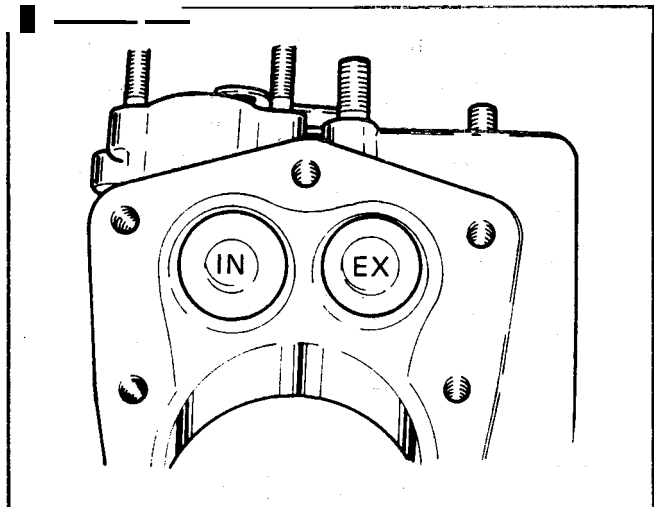

Figure 95
2. Install the intake and exhaust valves. Coat the valve stems with a liberal amount of engine oil and insert them into the valve guides in the cylinder. See Figure 95 for correct placement of the intake and exhaust valves. The intake valve has the letters "IN" stamped in the head of the valve.